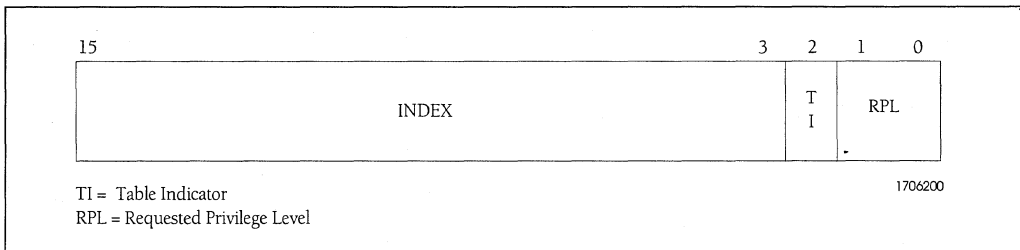

Figure 2-3. Segment Selector
In protected mode, a segment register holds a **segment selector** containing a 13-bit index, a Table Indicator (TI) bit, and a two-bit requested privilege level (RPL) field as shown in Figure 2-3.